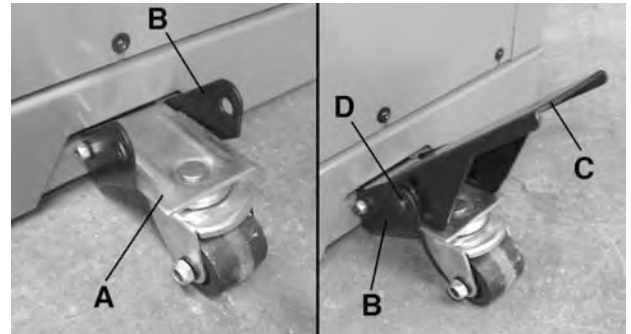

FIGURE 4
1. Position the wheel assembly (A) Fig.4 in between the mounted bracket (B). Align the mounting holes and secure wheel assembly to bracket using a long hex. bolt and nylon hex. nut. Do not overtighten.
2. Position the lifting pedal (C) Fig.4 in between the mounted bracket (B) and secure it to the bracket using a large pivot pin, 2 large washers and E-retaining rings (D).